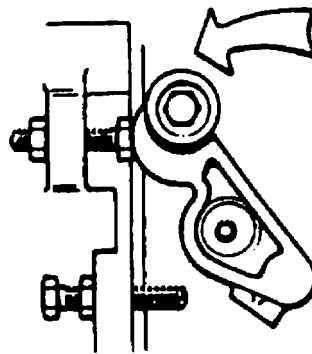

FIGURE 3-6. Engine Speed Stop
- b. Position engine speed control counterclockwise to stop position and hold in this position with a plastic tie-wrap. Refer to FIGURE 3-6.